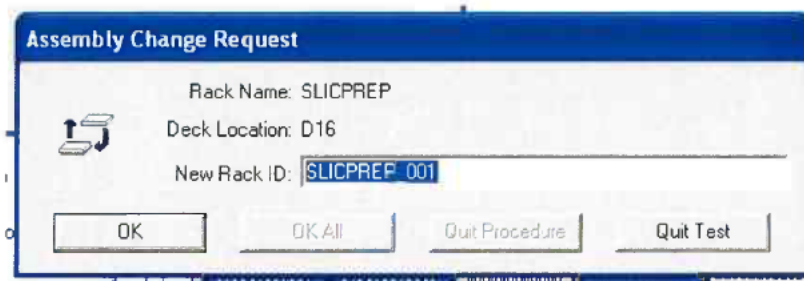

Figure 3. Scan batch ID request
21. Message will appear (Figure 3 below):